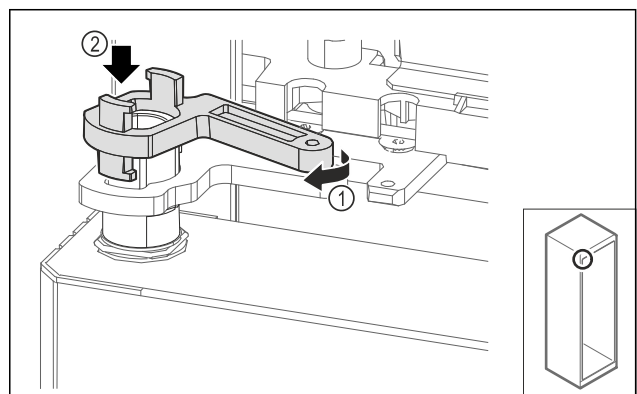

Fig. 70
- Turn the swap bearing block lock slightly Fig. 70 (1) and place it on the sleeve Fig. 70 (2).